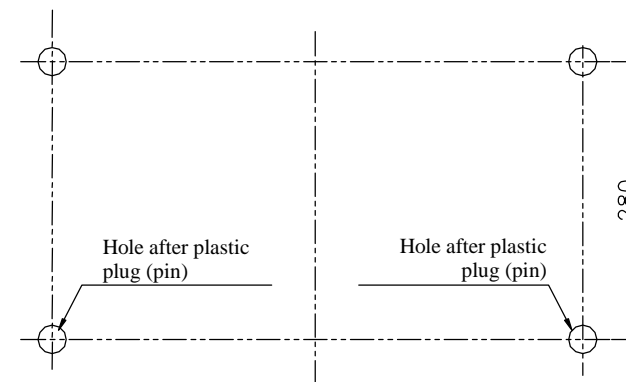

Fig. 2
3. Find plastic protruding plugs (pins) on the left and right side in the trunk. Take them out. Raised holes are base holes. Mark second holes as shown on the figure 2. Next drill marked holes straight through using bit $\phi 11$ mm, then enlarge it only from luggage part by bit $\phi 17$ mm.